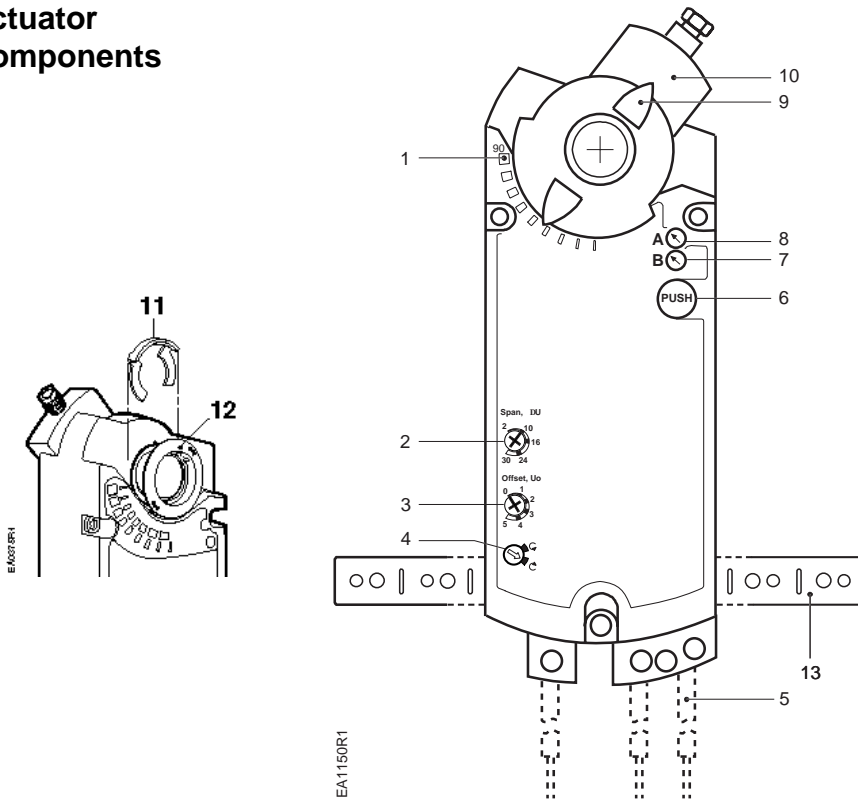

Figure 13. Components of the Modulating Actuator.
- The direction of rotation switch must be set to match the clockwise or counterclockwise rotation of the damper shaft. The factory setting is clockwise. See Figure 13 for location on the actuator.
- The direction of rotation switches must be set identically on both actuators according to the clockwise or counterclockwise rotation of the damper shaft. The factory setting is clockwise. See Figure 13 for location on the actuators.